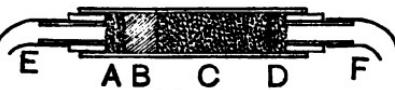

FIG. 74.
Through each cork insert tightly a small bit of glass tube, like the tube used in babies' bottles. The three tubes can be bought for a few pence in a chemist's or druggist's shop. Now insert one of the corks (containing the tube) firmly into one end of the large glass tube. Down on it, in the tube, put a bit of sponge (A, fig. 74), thrust in through the large tube from the open end, and pressed pretty tightly on the cork. On this an inch of sand (B): and on this the charcoal (C) to fill the rest of the tube except leaving room for the other cork.